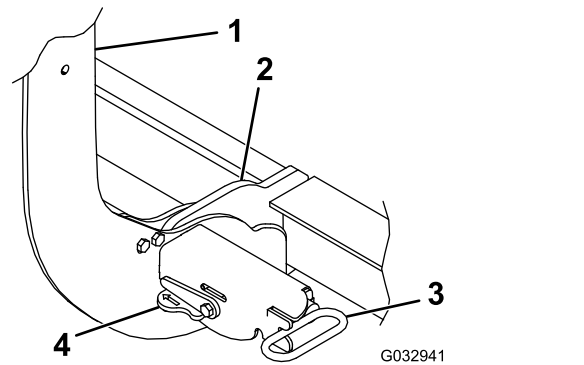

Figure 29
3. Turn the levers on the couplers to the ON position (Figure 29).
6. Ensure that both coupler spring pins have fully engaged the coupler (Figure 29).